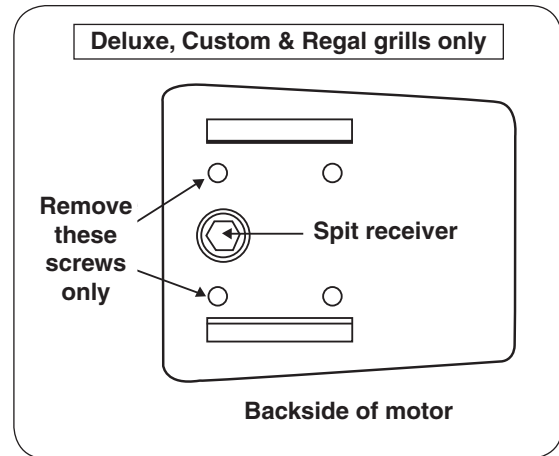

Fig. 2-1 Install bracket to motor (3601G, 3603G, 3606G)
1. Remove the two small screws from the motor casing (Fig. 2-1). Holding the motor bracket offset tab away from the motor, place the bracket against the motor casing, aligning the spit receiver with the $\frac{3}{4}$ " bracket hole. If the spit receiver is not centered in the $\frac{3}{4}$ " hole when the screw holes are lined up, rotate the bracket (180°) in the opposite direction. Replace and tighten the screws.
1. Remove the two small screws from the motor casing (Fig. 2-1). Holding the **(A)** motor bracket offset tab away from the motor, place the bracket against the motor casing, aligning the spit receiver with the $\frac{3}{4}$ " bracket hole. If the spit receiver is not centered in the $\frac{3}{4}$ " hole when the screw holes are lined up, rotate the bracket (180°) in the opposite direction. Replace and tighten the screws.